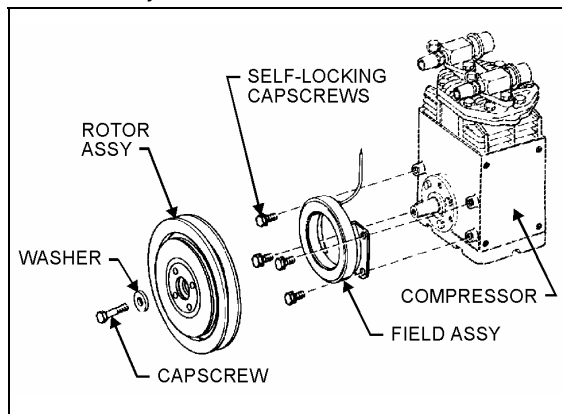

FIGURE 20: PULLEY INSTALLATION
1. Position the field assembly against the compressor bosses, aligning the field mounting holes with the bolt holes in the bosses (Fig. 20). Insert four (4) self-locking cap screws, supplied with the clutch, into the bolt holes of the compressor. Tighten the cap screws to a wrench torque of 7/10 lbf•ft (9,5/13,5 N•m). Take care not to strip the threads in the compressor body.